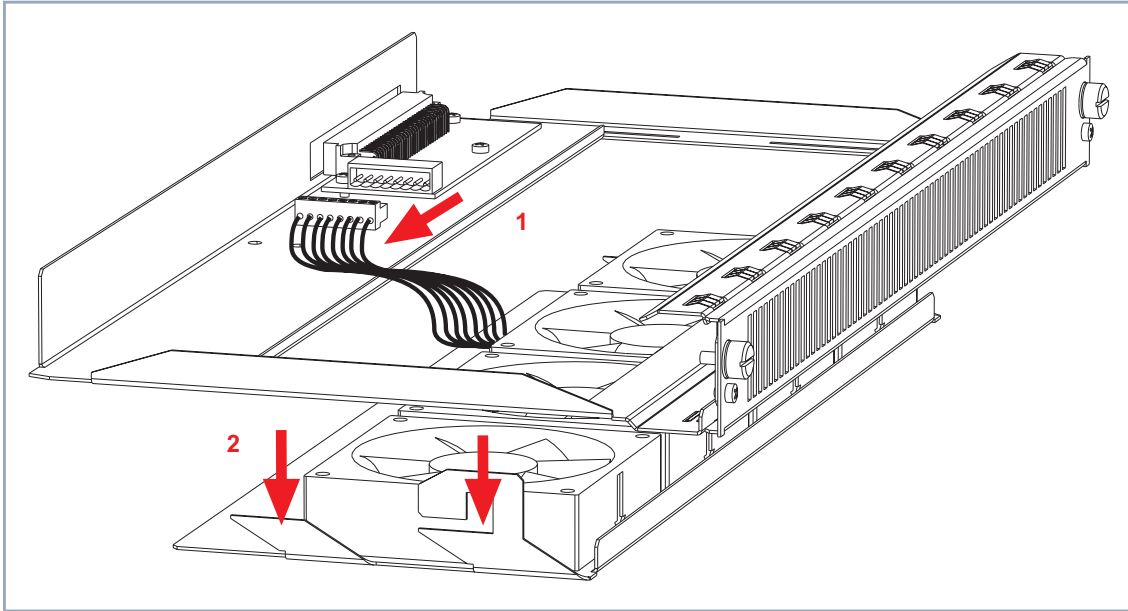

Figure 4-14: Disconnecting the fan insertion from the fan cassette
- Disconnect the fan insertion plug from the fan cassette as shown in figure 4-14, page 52, arrow no. 1.
- Draw out the fan insertion from the fan cassette as shown in figure 4-14, page 52, arrow no. 2.
- Disconnect the fan insertion switch from the fan cassette as shown in figure 4-14, page 52, arrow no. 1.